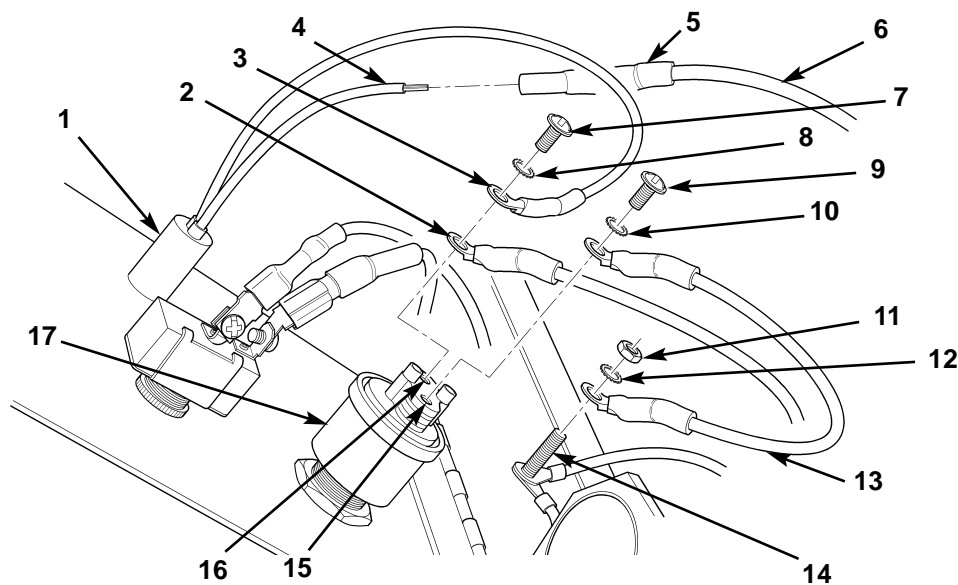

Figure 11. Connecting ABS Warning Light and Test Switch.
7. Connect ABS warning light (figure 11, item 1) black wire (figure 11, item 4) to 36 in. (91 cm) blue wire (figure 11, item 6) from CB#3 with new wire connector (figure 11, item 5).
8. Route 76 in. (193 cm) blue wire (figure 11, item 2) from ABS ECU harness to test switch (figure 11, item 17), and connect blue wire (figure 11, item 2) and ABS warning light black wire (figure 11, item 3) to test switch terminal (figure 11, item 16) with star washer (figure 11, item 8) and screw (figure 11, item 7).
9. Connect 8 in. (203 mm) black wire (figure 11, item 13) to ABS test switch terminal (figure 11, item 15) with star washer (figure 11, item 10) and screw (figure 11, item 9).
10. Connect opposite end of 8 in. (203 mm) black wire (figure 11, item 13) to heater control box mounting stud (figure 11, item 14) with star washer (figure 11, item 12) and nut (figure 11, item 11).